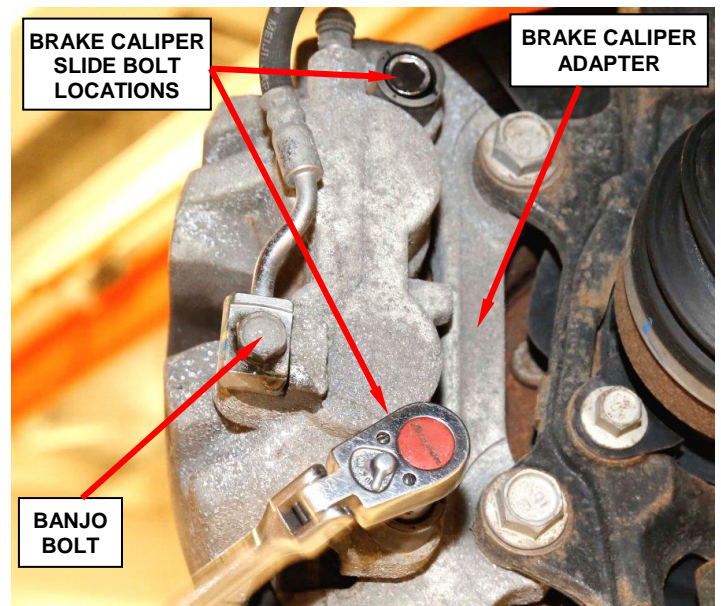

Figure 5 – Brake Caliper Slide Bolts
7. Remove and save the brake caliper slide bolts (Figure 5).